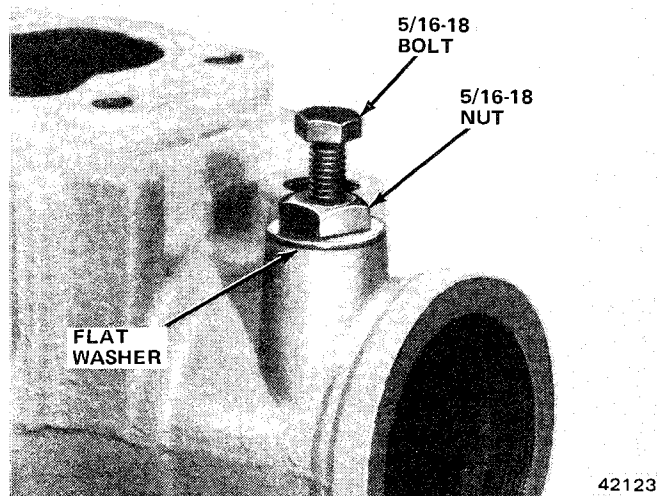

Fig. 2L-21 Hose Connector Seat Removal
- (11) Install both seats using tool J-6217 (fig. 2L-22).
- (12) Inspect check valve operation by lightly pressing valve downward with pencil. Valve should reseat itself when pencil pressure is released.
- (13) Clean housing in solvent to remove any remaining chips and petroleum jelly.